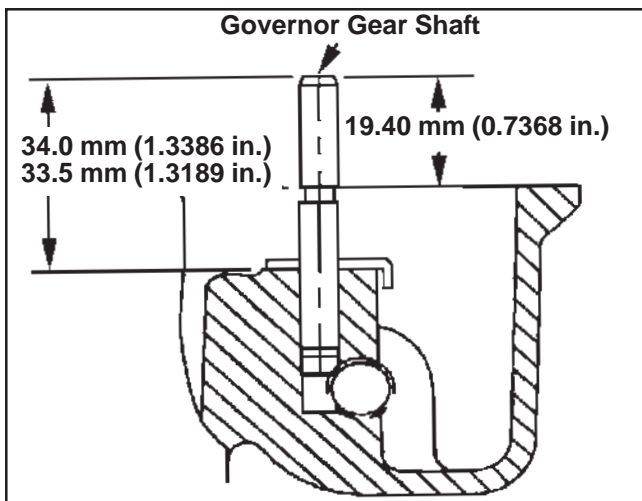

Figure 10-13. Governor Shaft Press Depth.
3. Carefully inspect the governor gear shaft and replace it only if it is damaged. After pulling damaged shaft, press or lightly tap replacement shaft into closure plate to depth shown in Figure 10-13.